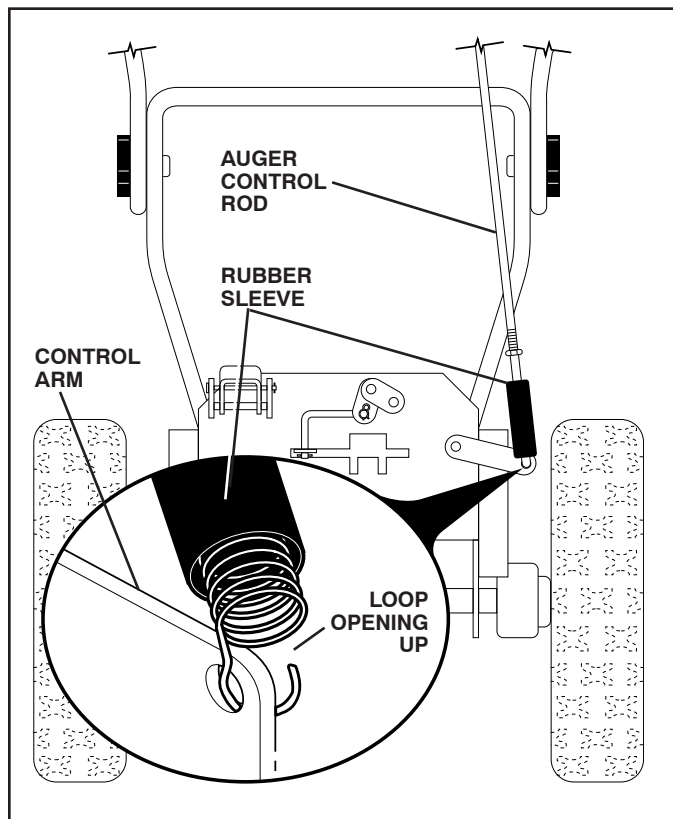

FIG. 5
## INSTALL AUGER CONTROL ROD (See Figs. 5 and 6)
2. Hook end of spring into control arm with loop opening up as shown. (See Fig. 5)